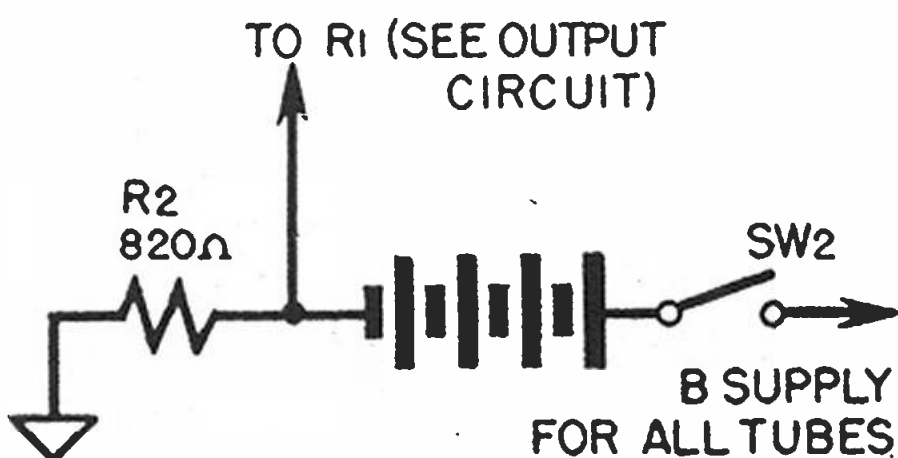

Fig. 8-5. B. supply circuit.
b) *B Supply Circuit.* See Figure 8-5.
other end of C8 is connected to chassis. The lower end of R10 and the red (B plus) wire of the i.f. transformer are now connected to B plus (see B-supply diagram, Figure 8-5).